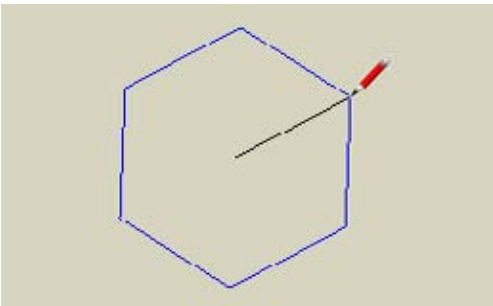

Figure 2-17
1. Use the Polygon tool (Draw→Polygon) to draw a hexagon on the flat (red-green) plane, with corners that are not in the red or green direction, as shown in Figure 2-17. (The Polygon tool is also available on the Large Tool Set toolbar.)